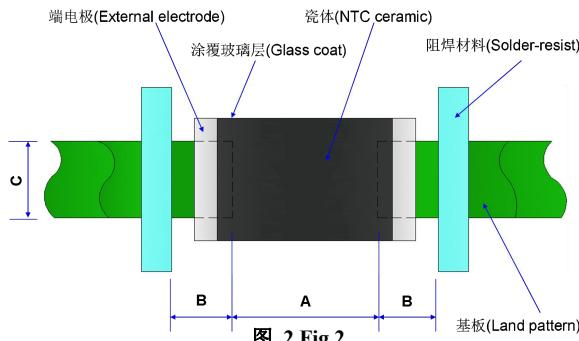

图 2 Fig.2
- PCB 焊盘: 见图 2 和表 1
Recommended PCB pattern for reflow soldering: See Fig.2 and Table 1.